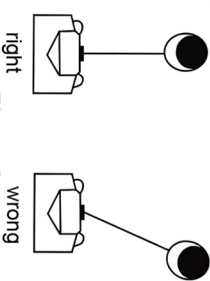

Figure 2
- e. Avoid continuous pulls from extreme angles as this might cause the wire rope to gather on one end of the drum and damage the wire rope. SEE FIGURE 2